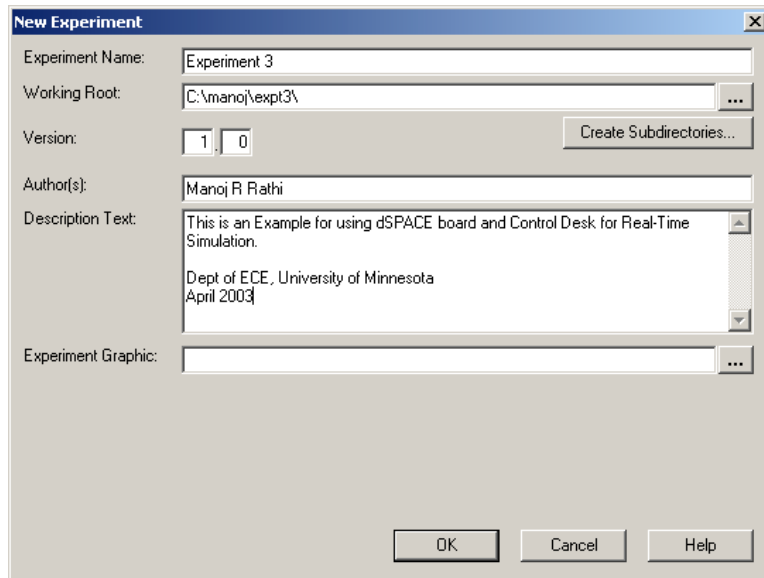

Figure 2.8: Experiment Settings
- First we start a new experiment. Click **File/New Experiment**. In the pop-up window write the name of the experiment, and very important, set the path where the simulation files are stored. (see Fig. 2.8). **Note** When creating a new experiment, don't forget to set correct working directory.